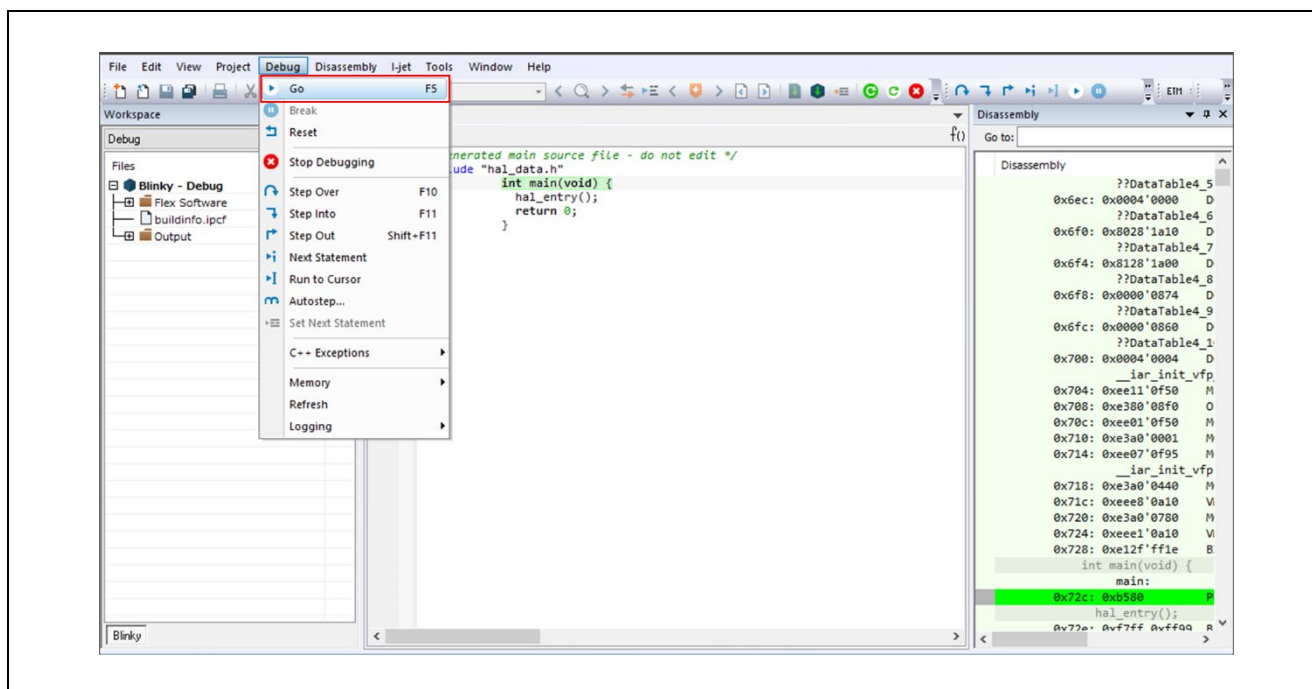

Figure 61 : Go Button
4. Run the program of primary project as shown in Figure 61. If the LED0 and LED1 are blinking, proceed to the next step.